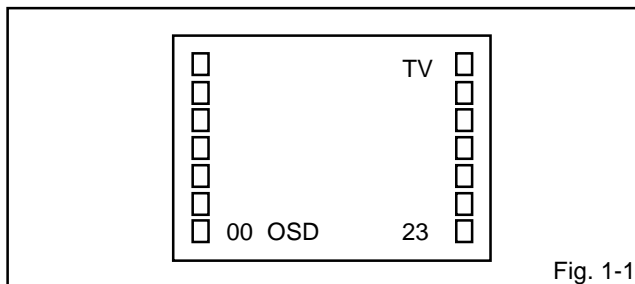

Fig. 1-1
1. In the condition of NO indication on the screen. Press the VOL. DOWN button on the set and the Channel button (9) on the remote control for more than 2 seconds to appear the adjustment mode on the screen as shown in Fig. 1-1.
3. Activate the adjustment mode display of Fig. 1-1 and press the channel button (01) on the remote control to select "CUT OFF".
4. Activate the adjustment mode display of Fig. 1-1 and press the channel button (10) on the remote control to select "R.BIAS".
3. Activate the adjustment mode display of Fig. 1-1 and press the channel button (22) on the remote control to select "TINT".
6. Activate the adjustment mode display of Fig. 1-1 and press the channel button (19) on the remote control to select "COL.CENT".
3. Activate the adjustment mode display of **Fig. 1-1** and press the channel button (**05**) on the remote control to select "H.PHAS".
3. Activate the adjustment mode display of **Fig. 1-1** and press the channel button (**06**) on the remote control to select "V.SIZE".
3. Activate the adjustment mode display of **Fig. 1-1** and press the channel button (**07**) on the remote control to select "V.SFT".
1. Activate the adjustment mode display of **Fig. 1-1**.
3. Activate the adjustment mode display of **Fig. 1-1** and press the channel button (**13**) on the remote control to select "BRI.CENT".
2. Activate the adjustment mode display of **Fig. 1-1** press the channel button (**17**) on the remote control to select "CONT.MAX".
5. Activate the adjustment mode display of **Fig 1-1** pass the channel button (**17**) on the remote control to select"CONT.MAX".